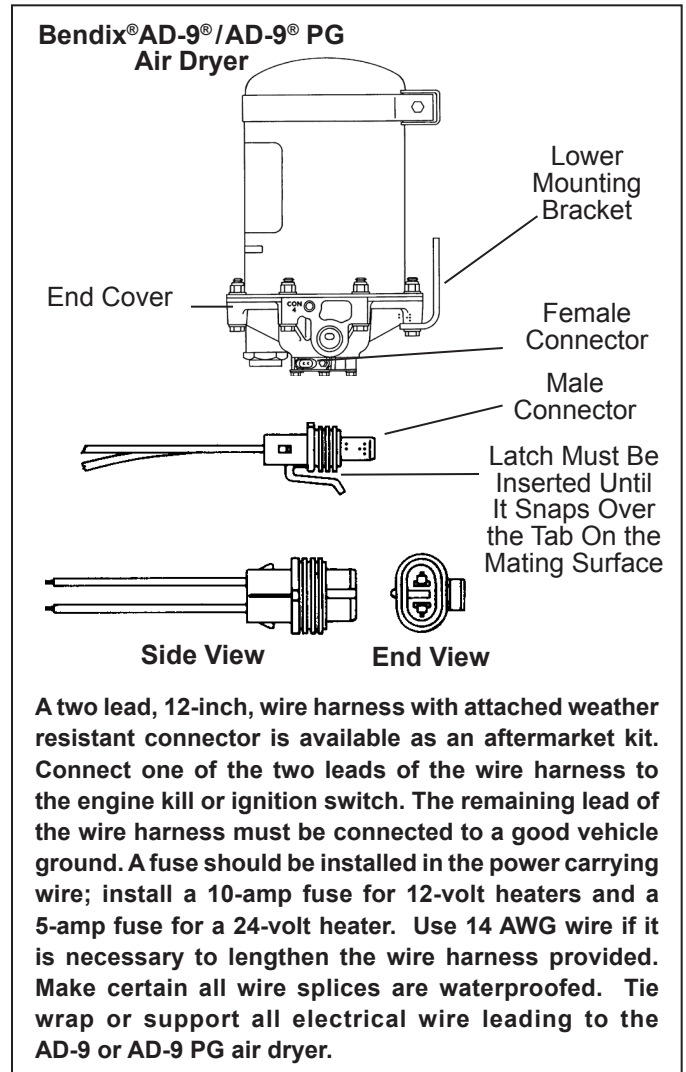

Figure 6 – Heater And Thermostat Connector
4. Unplug the vehicle wiring harness from the heater and thermostat assembly connector on the purge valve housing assembly. *See Figure 6.*